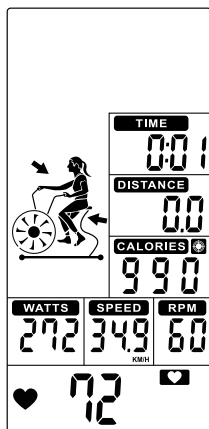

Figure 44
- ③ Preset CALORIES value counts down, TIME, DISTANCE, WATTS, SPEED & RPM start to count up. (Figure 44).
- ④ Press START button once enter into PAUSE mode, Buzzer will sound for 0.5s per second within 30s. All values are displaying on LCD and flashing in every 2s. If continue to stop training for 5 minutes, buzzer sounds 2s and enter Wake-up mode. Press START to resume workout.
- ⑤ No signal input for 30s, buzzer sounds 1s and enter to Wake-up mode.